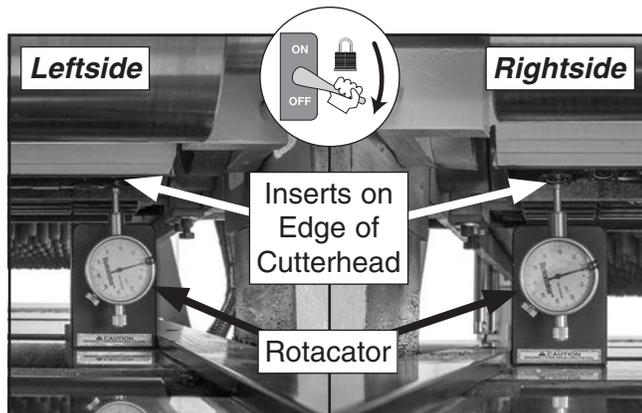

Figure 108. Rotacator placed under inserts on edge of upper cutterhead.
3. Place Rotacator or dial indicator on planer table directly under inserts on leftside and rightside edge of upper cutterhead (see **Figure 108**).